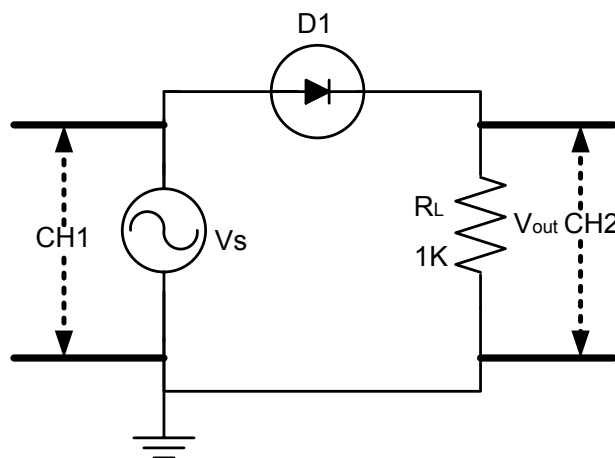

Figure 2
2. For the circuit of Figure 2, assume a Zener diode with a forward drop of 0.7V and a $V_Z=5.1V$. For a sinusoidal input of (5V, 5 KHz) sketch the output and label the points. Does the output shape change if the input amplitude is increased to 10V (peak)?
2. For the Circuit of Figure 2, set the signal generator with sinusoidal input of 5 KHz with amplitude of approximately 5V. (Make sure the DC offset on your signal generator is zero). Sketch the input versus the output as a function of time. Use the X-Y mode of Oscilloscope to plot transfer function.